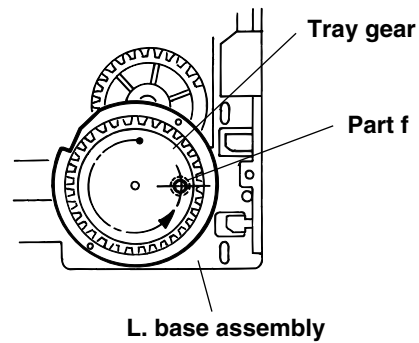

Fig. 7
■ Removing the head assembly (See Fig.7)